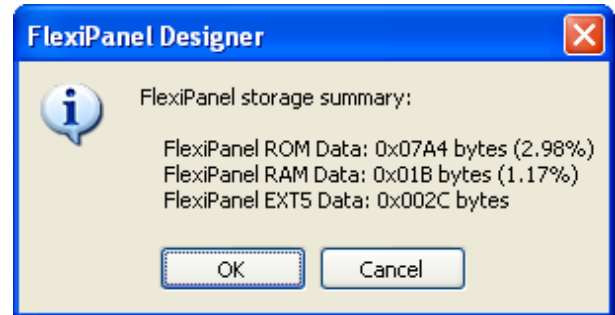

Figure 3 – FlexiPanel Storage Summary
To create BASIC Stamp source code to program the module (*i.e.* step 1 above) select *Create BASIC programming code...* from the *Target Device* menu. The *Storage Summary* dialog box appears (Figure 3), followed by a dialog box prompting for a file name for the source code file to be created. Select a file name and press OK. A file will be created which may then be read into the BASIC Stamp Editor (*i.e.* step 2 above).
2. The *Storage Summary* dialog box appears (Figure 3).
2. The *Storage Summary* dialog box appears (Figure 3). If your user interface uses a lot of RAM, check that the storage requirements do not interfere with the message stack size you will be using. (See Toothpick Slave documentation.)
2. The *Storage Summary* dialog box appears (Figure 3). If your user interface uses a lot of RAM, check that the storage requirements do not interfere with the message stack size you will be using. (See Toothpick Stamp Edition documentation.)
2. The *Storage Summary* dialog box appears (Figure 3). Press OK.